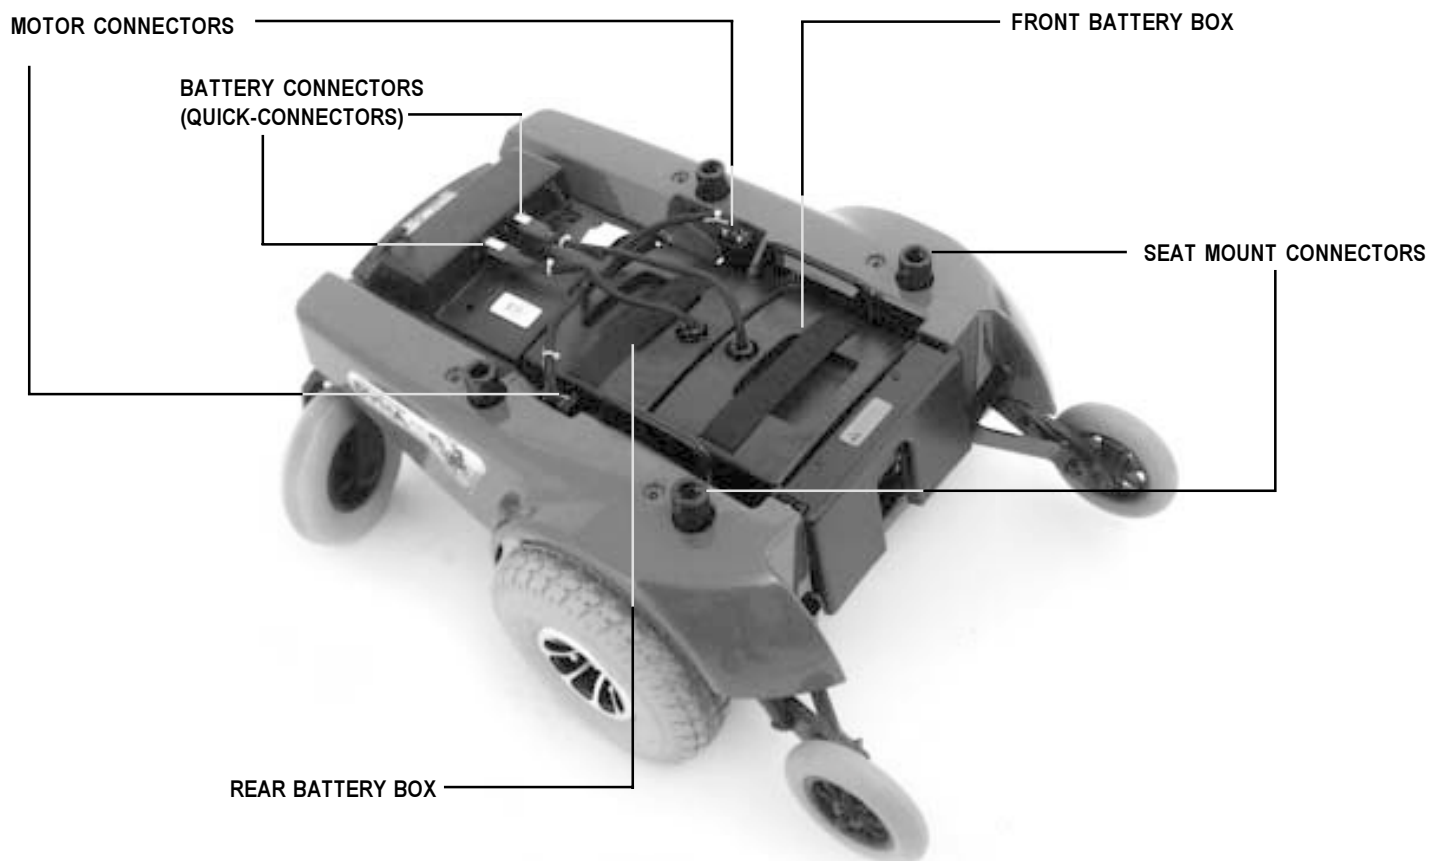

Figure 7. Power Base Top View
1. Disconnect both battery connectors and both motor connectors. See figure 7.